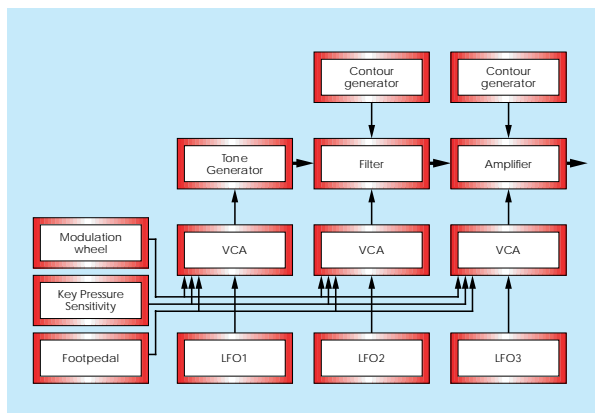

Figure 11: A simple synth will three LFOs and multiple modulation controllers.
► These might include modulation wheels, aftertouch (pressure sensitivity), or foot pedals. The block diagram for this (Figure 11) may look daunting, but you will see that it breaks down into the easily understood parts shown above.